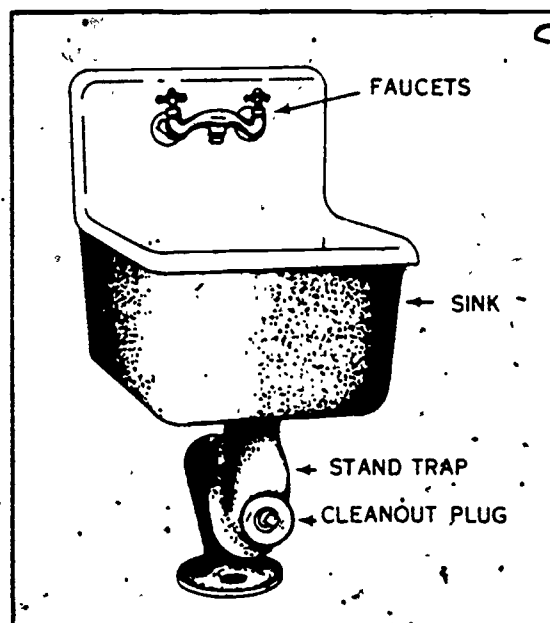

Figure 5-20. Utility sink.
**Exercises (449):**
**Utility Sinks.** The utility sink, shown in figure 5-20